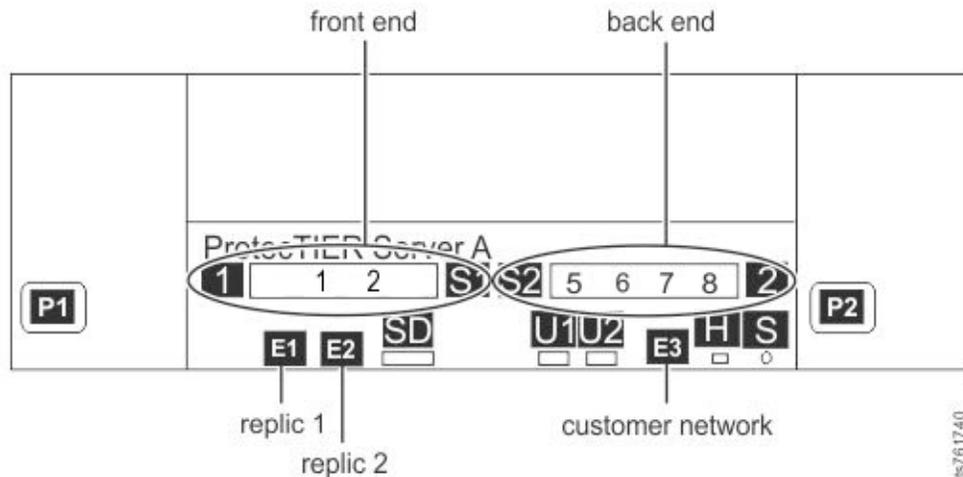

Figure 15. Front-end Ethernet connections for single node configuration on a DD6
1. Connect Ethernet cables between the ProtecTIER server and the customer host Ethernet network according to Figure 15. To help track your progress during this task, consider making the connections from top to bottom. Follow the order in which the tasks are listed in the table and mark the "✓ when complete" column after you make the connection and label the cable..